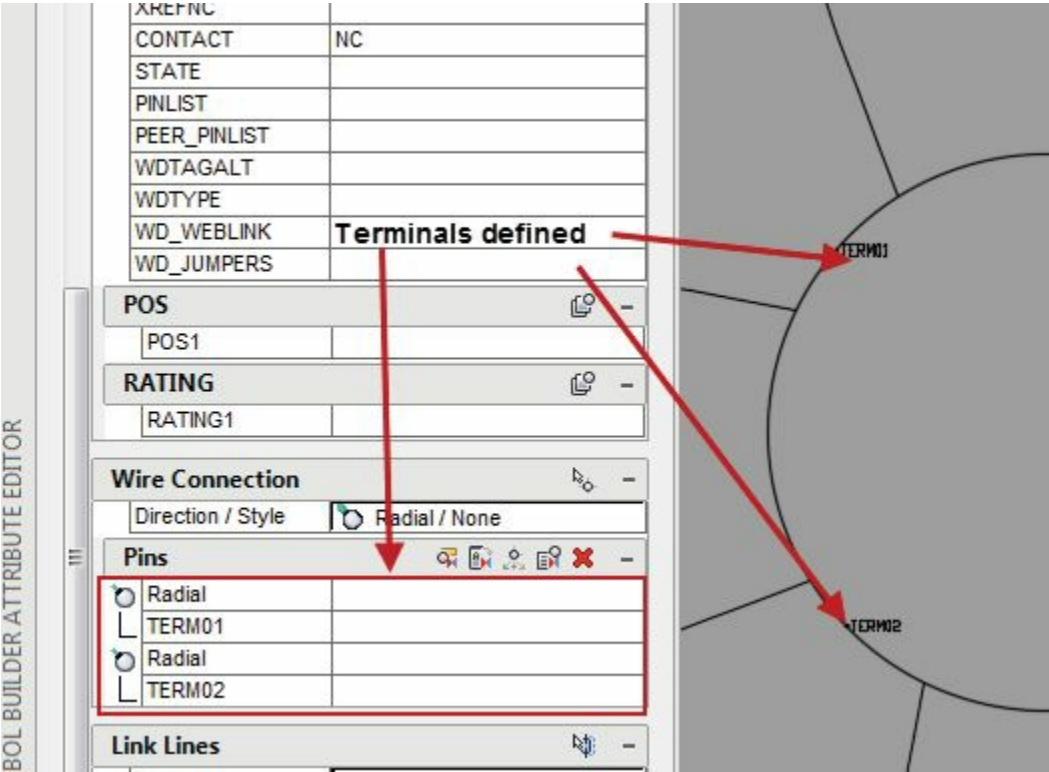

Figure-48. Terminals created
- Press ENTER to exit the wire connection insertion mode. The defined terminals will be displayed in the **Pins** rollout; refer to Figure-48.